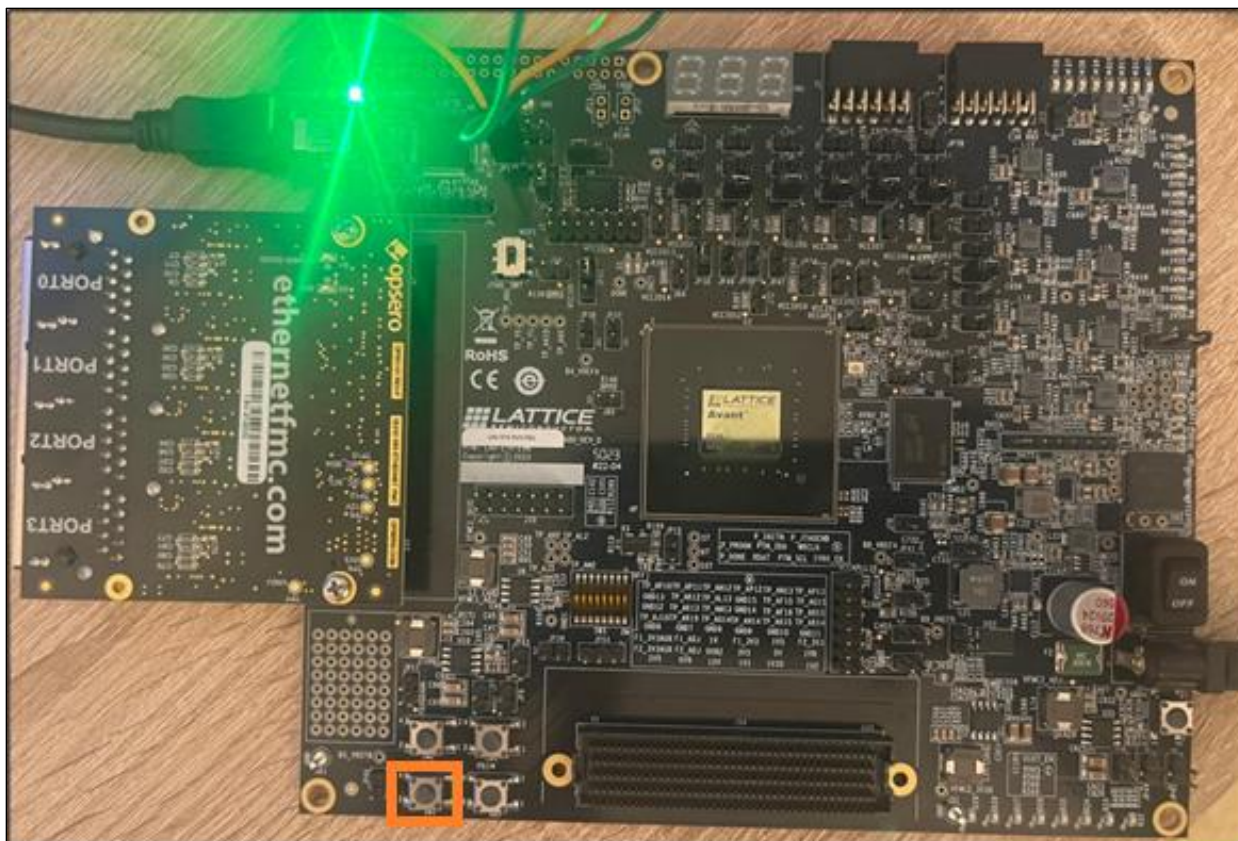

Figure 7.25. SW1 Reset Button
26. Press **SW1 Reset** button on the board as highlighted in Figure 7.25.